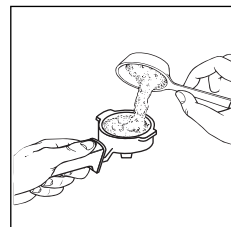

fig. 11
2. To prepare a single coffee, fill the filter with a level measure of ground coffee, about 7 g (fig. 11). To prepare two coffees, use the filter and fill with two loosely filled measures of ground coffee (about 6+6 g). Fill the filter in small doses to prevent the ground coffee from overflowing.